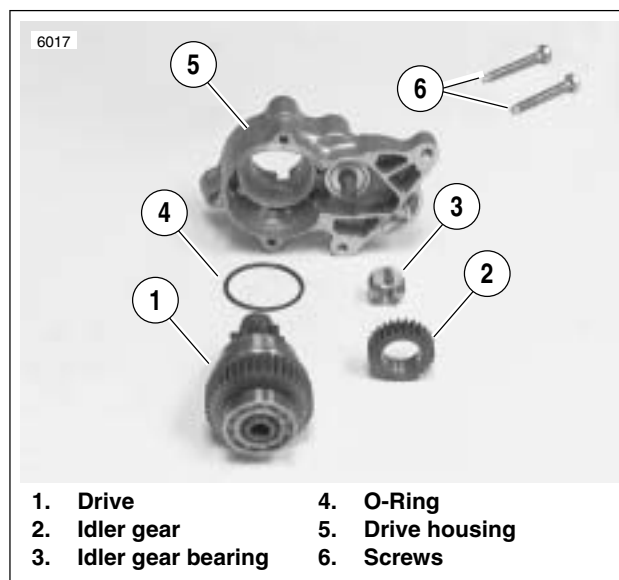

Figure 5-24. Starter Drive Assembly
- a. Touch one probe to holder plate (1).
- b. Touch the other probe to each of the positive (insulated) brush holders (2).
15. See Figure 5-24. Remove two drive housing mounting screws (6). Remove drive housing (5) from solenoid housing.
16. Remove drive (1), idler gear (2), idler gear bearing (3), and O-ring (4) from drive housing (O-ring is located in drive housing groove).
1. See Figure 5-24. Clean, inspect and lubricate drive assembly components. Lubricate parts with high temperature grease, such as LUBRIPLATE 110.